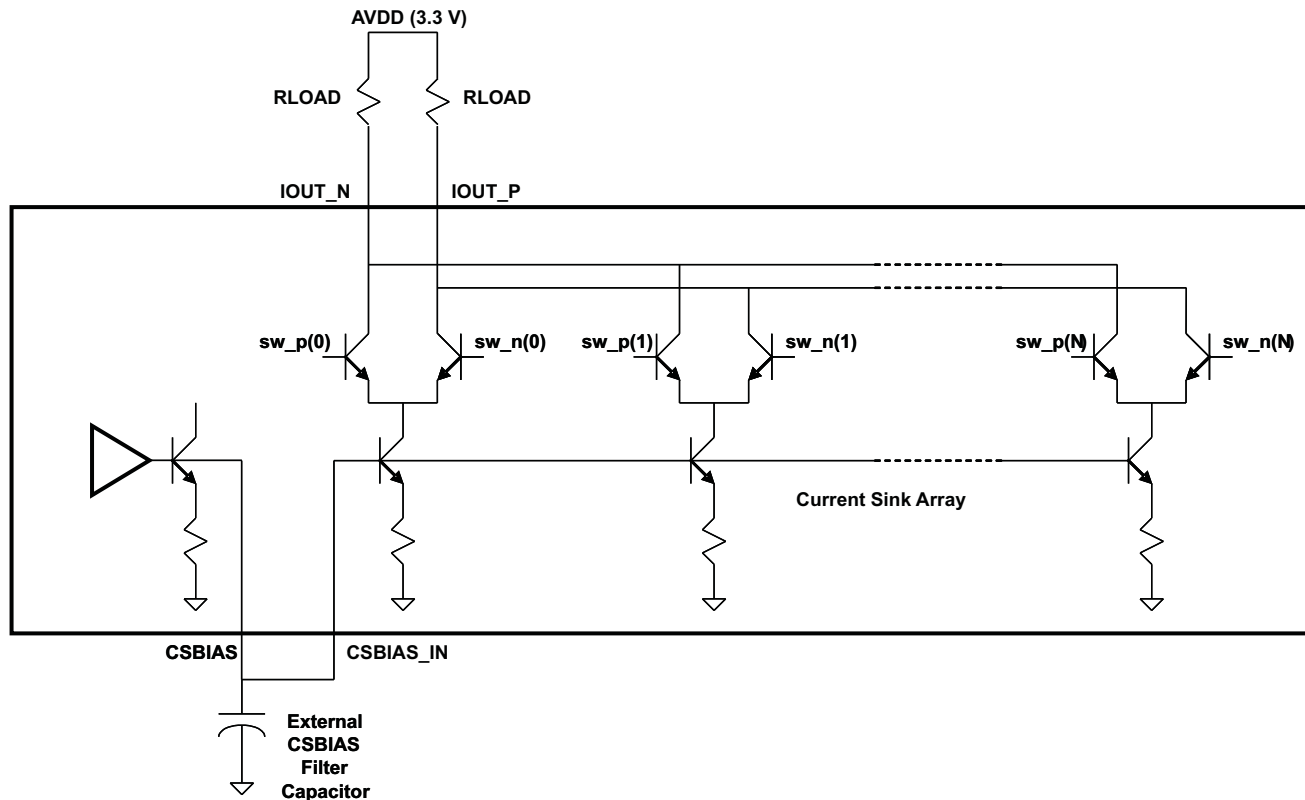

Figure 23. Current Sink Array
Figure 23 is a simplified schematic of the current sink array output with corresponding switches. Differential NPN switches direct the current of each individual NPN current sink to either the positive output node, IOUT_P, or its complementary negative output node, IOUT_N. The input data presented at the DA_P[13:0], DA_N[13:0], DB_P[13:0], and DB_N[13:0] is decoded to control the sw_p(N) and sw_n(N) current switches.